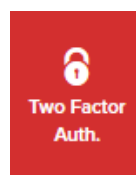

Figure 12. Partner Portal (Two Factor Auth. icon)
4. Click the **Two Factor Auth.** link on the left-hand side of the web page (Figure 12 \(page 32\)).